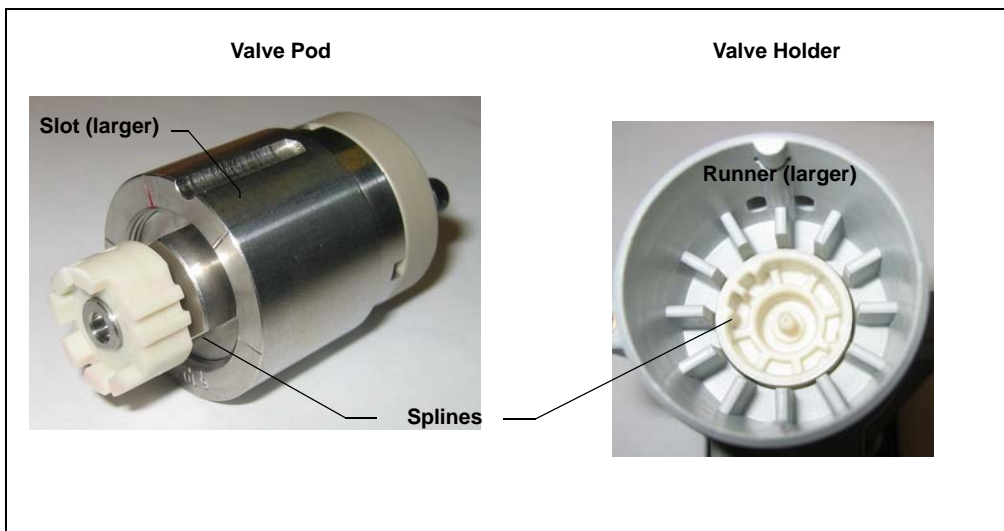

Figure 5-12. Valve Pod and Pod Holder
7. Align the slots in the new pod with the runner in the valve holder on the Dionex ICS-2100 (see Figure 5-12). Valve pods are keyed to fit only one way (one slot is narrower than the other). Verify that the slots are aligned with their matching runners.
8. Also verify that the two splines on the pod align with the matching splines inside the valve holder (see Figure 5-12). If necessary, twist the end of the pod to adjust the position of the splines.